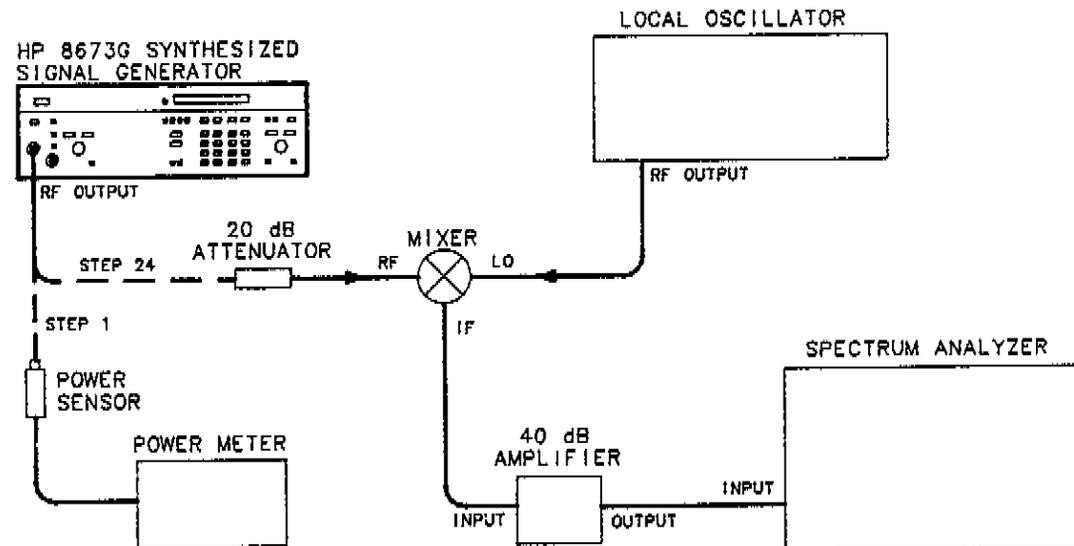

Figure 4-16. Absolute Level Accuracy Test Setup
1. Connect the equipment as shown in Figure 4-16.
23. Disconnect the power meter and connect the Signal Generator to the attenuator and mixer as shown in Figure 4-16.